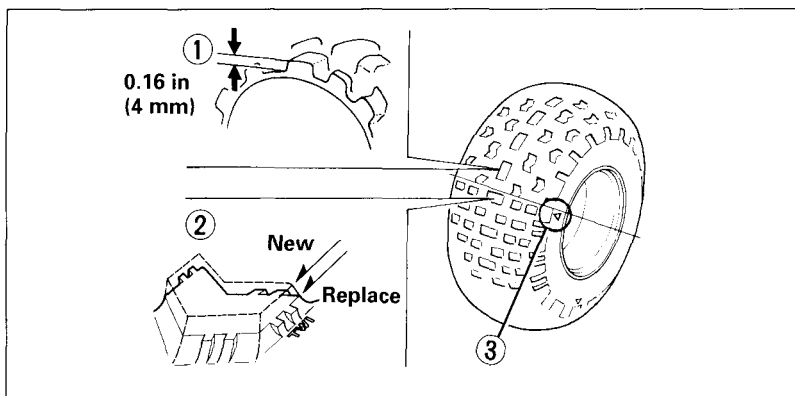

Fig. 4-35
To check the condition of a tire tread, measure the groove depth (1) in the center of the tire, or check the wear indicator (2) as shown in Fig. 4-35. The minimum tread depth is 0.16 in (4 mm). When the tread depth is less than recommended, the tire should be replaced.